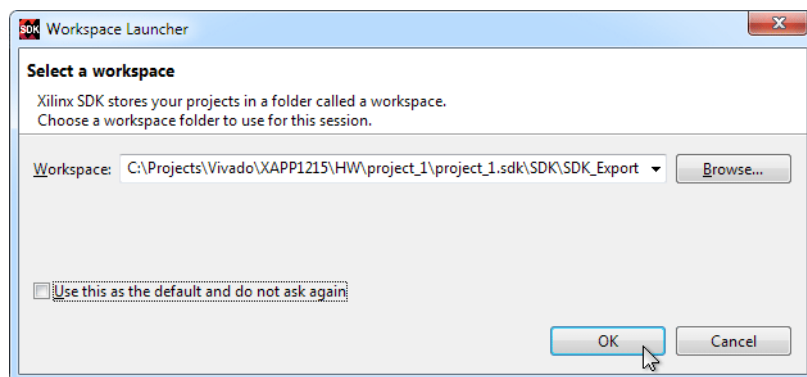

Figure 6: SDK Select Workspace
- In the Workspace Launcher, select the following workspace path and click **OK** (Figure 6):